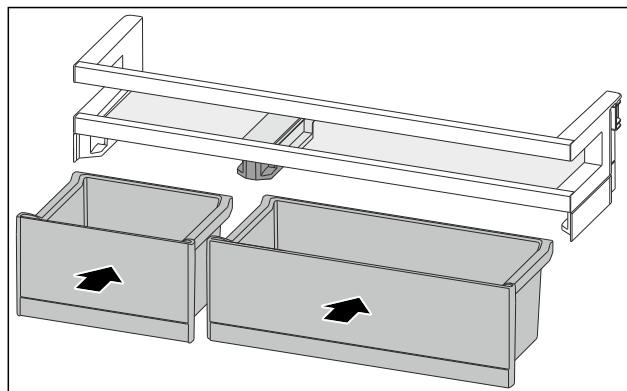

Fig. 82
- ▶ Insert the VarioBoxes in reverse order. (see Fig. 82)